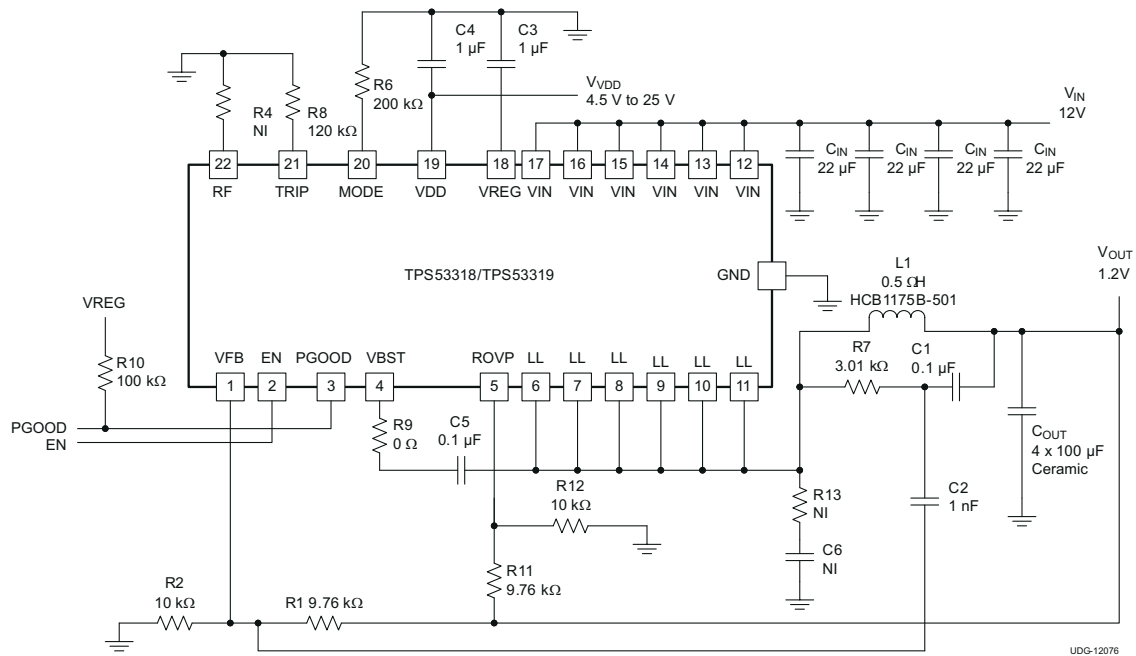

图 9-12. Typical Application Circuit, Redundent OVP Enabled
The redundant overvoltage level is programmed according to the output voltage setting, it is controlled by resistors R11 and R12 as shown in 图 9-12. Connect resistor R11 between the ROVP pin and the output, and connect resistor R12 between the ROVP pin and GND. This design recommends that the value of resistor R11 match the value of resistor R1 (or slightly higher), and that the value of resistor R2 match the value of resistor R12.
- Connect the ripple injection V_{OUT} signal (V_{OUT} side of the C1 capacitor in 图 9-12) from the terminal of ceramic output capacitor. The AC coupling capacitor (C2 in 图 9-12) should be placed near the device, and R7 and C1 can be placed near the power stage.